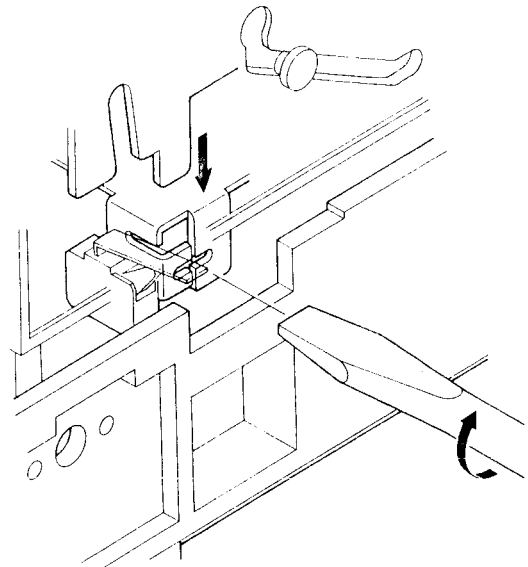

Fig.7-12 Disk clamp switch position adjustment
2. Raise the switch position by slightly turning the adjustment slit with a screwdriver. (See Fig.7-12.)